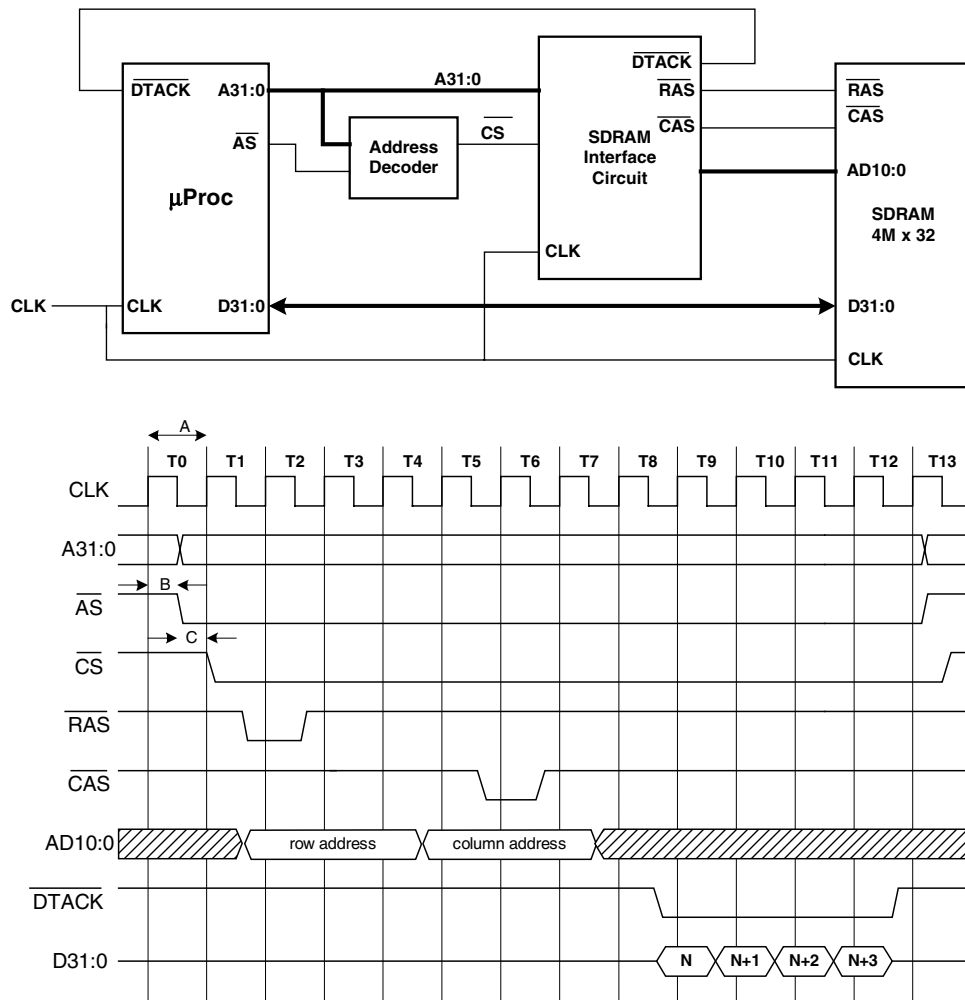

Figure 6
7. Figure 6 shows a microprocessor connected to a 4M x 32 bit SDRAM module through an address decoder and an interface circuit. The timing of the microprocessor and the SDRAM for reading a burst of four memory words is shown in Figure 6. The address bus $A_{31:0}$ becomes valid and the address strobe signal \overline{AS} is asserted at time B after the rising edge of the clock signal CLK during the clock cycle T_0 . The period of the clock is A. The address decoder circuit produces a chip select signal \overline{CS} , which is asserted low for addresses in the range \$00000000 to \$003FFFFF provided that \overline{AS} is also low at time C after \overline{AS} is asserted. The row address strobe signal \overline{RAS} and the column address strobe signal \overline{CAS} are asserted by the SDRAM interface circuit for one clock cycle on the falling edge of the clock during T_1 and T_5 respectively.